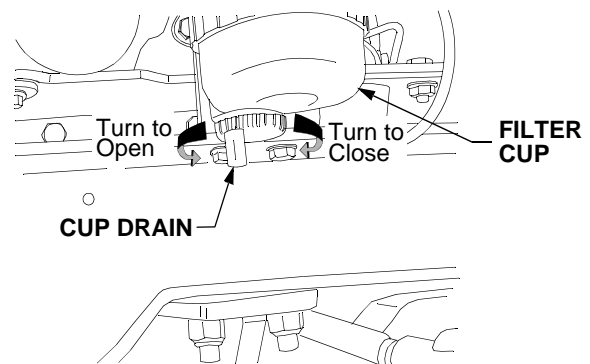

Figure 58
- Turn the cup drain counterclockwise to open. Allow the water at the bottom of the cup to drain until only diesel fuel drains. See Figure 58.
- Turn the cup drain clockwise to close. See Figure 58.
- Open the cup drain and drain the filter cup into the container below. Close the cup drain. Refer to Figure 58.